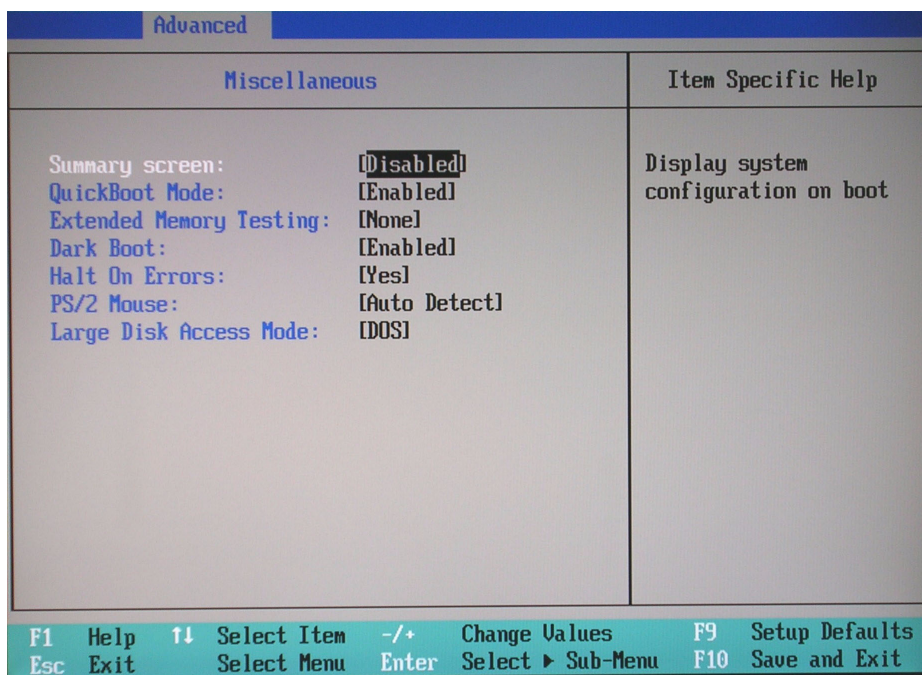

Figure 8-120 BIOS Advanced Miscellaneous Parameters
Miscellaneous	Figure 8-120 on page 8-119
27.) Set the parameters in the **Miscellaneous** screen as shown above in Figure 8-120.